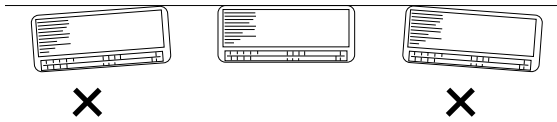

Fig. 14
- (2) Double check with a carpenter's level or tape measure that the panel is level. This is important to install the unit properly. (Fig. 14)
- (3) Make sure the panel is flush against the wall. Any space between the wall and unit will cause noise and vibration.